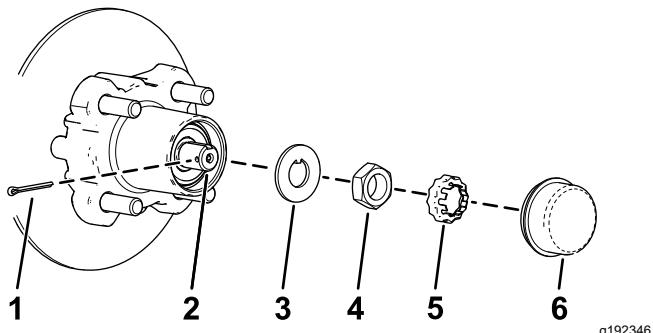
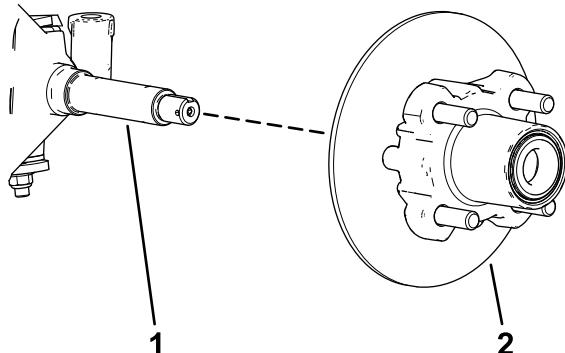

Figure 36
Figure 37
4. Remove the dust cap from the hub (Figure 36).
5. Remove the cotter pin and nut retainer from the spindle and spindle nut (Figure 36).
6. Remove the spindle nut from the spindle, and separate the hub and rotor assembly from the spindle (Figure 36 and Figure 37).